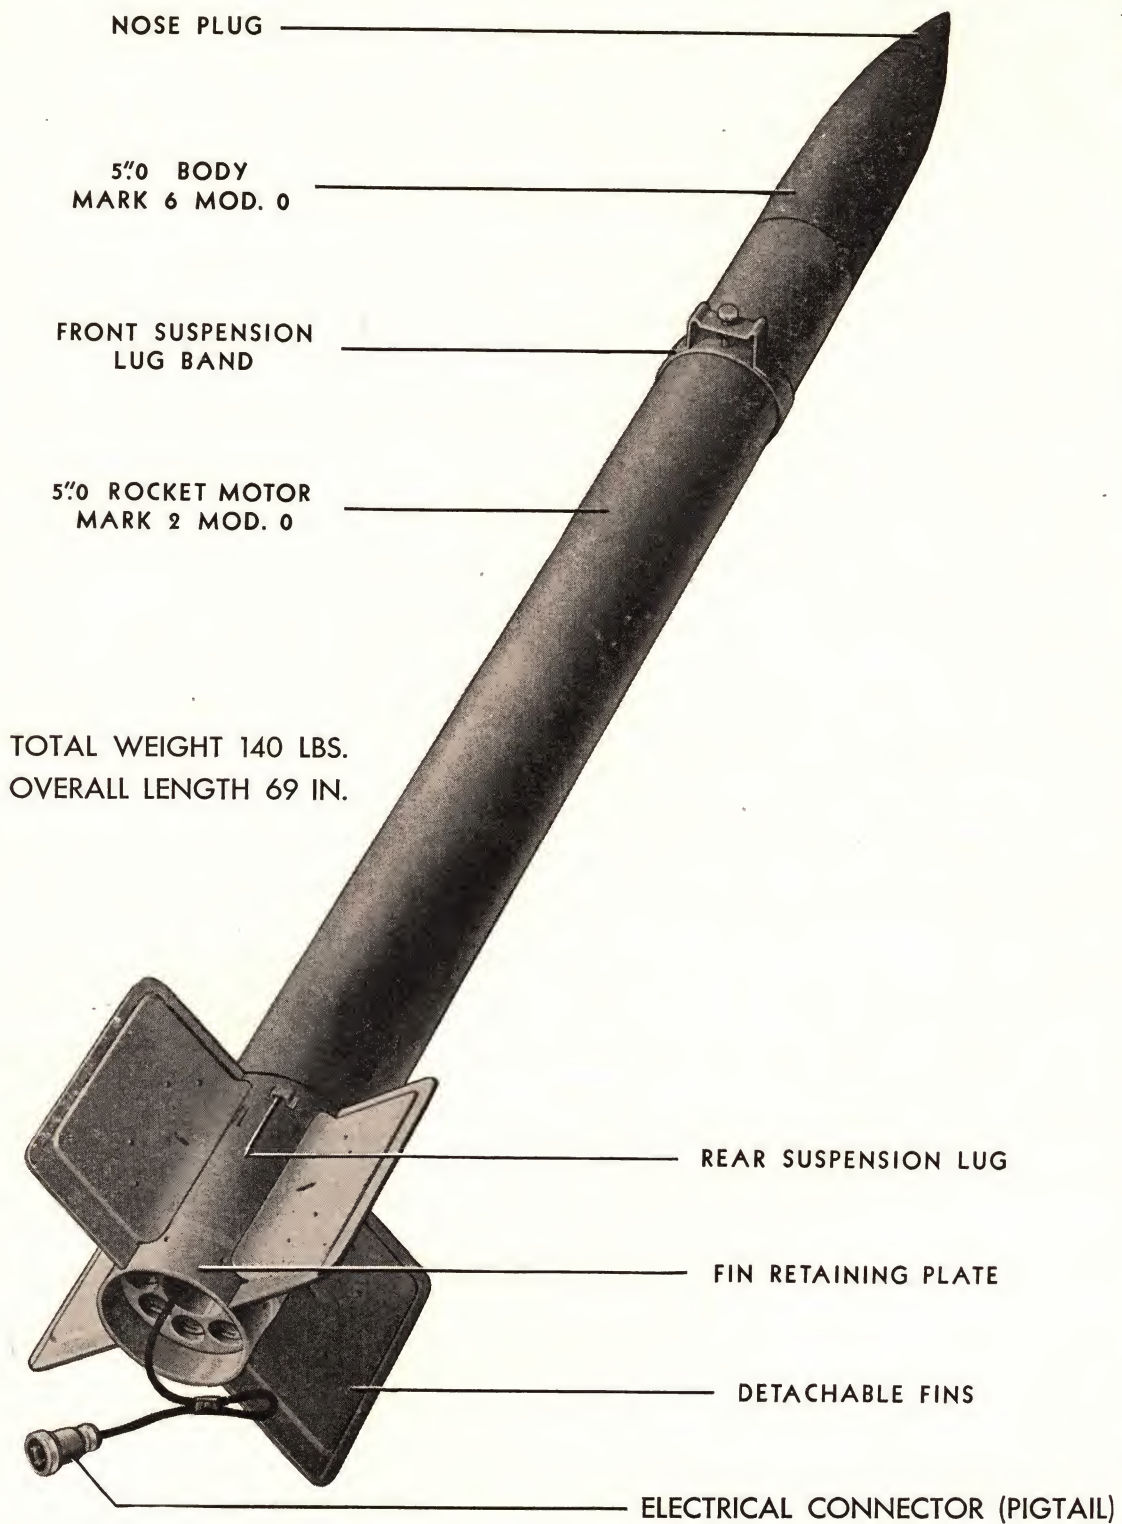

Figure 1—5'0 Rocket (5'0 Motor, Fin Stabilized)
1. The 5"0 Rocket (5"0 Motor, Fin Stabilizer) (Fig. 1) is a rocket for shipboard use or for forward firing from aircraft. It has approximately the same velocity and trajectory as the 3"5 aircraft rocket (with 3"25 motor). It is propelled by a 5"0 rocket motor and can be fired from Aircraft Rocket Launcher Mark 4 Mod 0, Special Zero Length Launchers, Grumman Type Zero Length Launchers, the Universal Zero Length Launchers Mark 5 and Mods and the shipboard Launcher Mk 30 Mod 0. The shipboard launcher is described in detail in OP 1135 (Preliminary). The assembled rocket is 69 inches long and weighs approximately 134 pounds.